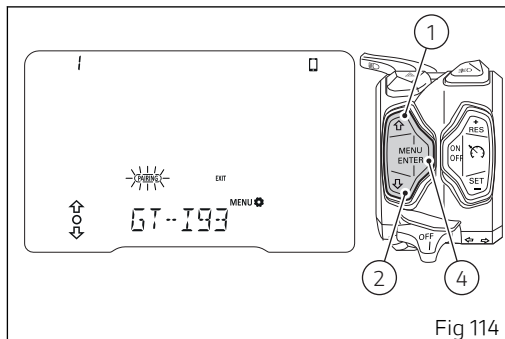

Fig 114
The Pairing function is activated by pressing button (4) after selecting the PAIRING item (flashing frame) (Fig 114): this runs a search for all Bluetooth devices present within a certain range.
After entering BLUETOOTH SETTING MENU (Fig 114), use buttons (1) and (2) to select the device to be deleted from the list shown in the Menu. Once the device is selected, press button (4). The instrument panel displays "DELETE" within the Menu. Press again button (4) to confirm, or press button (2) for 2 seconds to cancel deletion of the device. If user confirms deletion of the device, the instrument panel will display "WAIT" within the Menu.